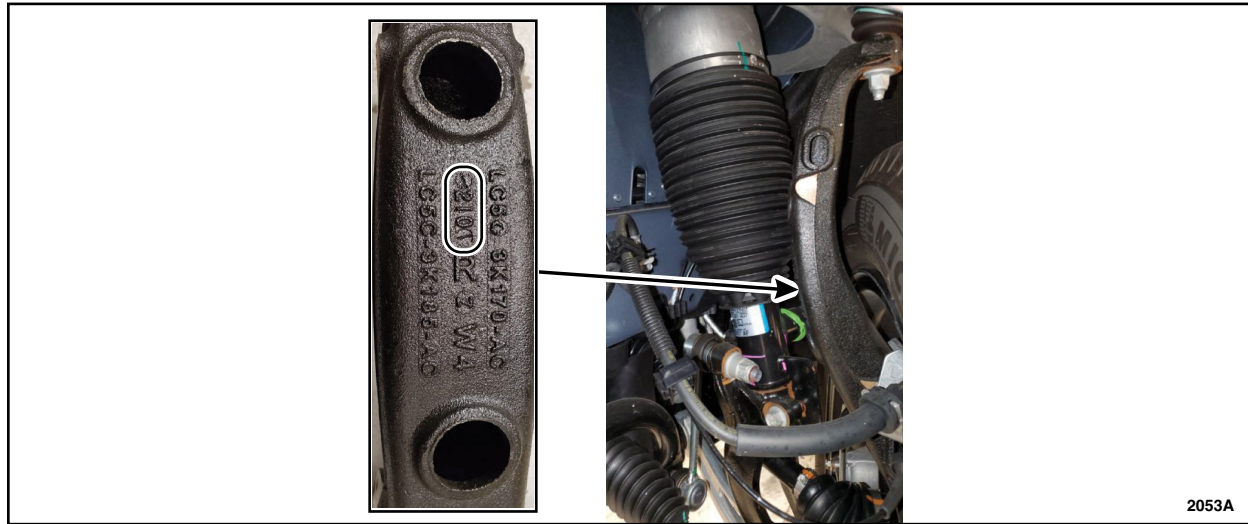

FIGURE 1
1. Turn the steering wheel to the full left position. Inspect and record the left hand wheel knuckle manufacturing date code. See Figure 1.